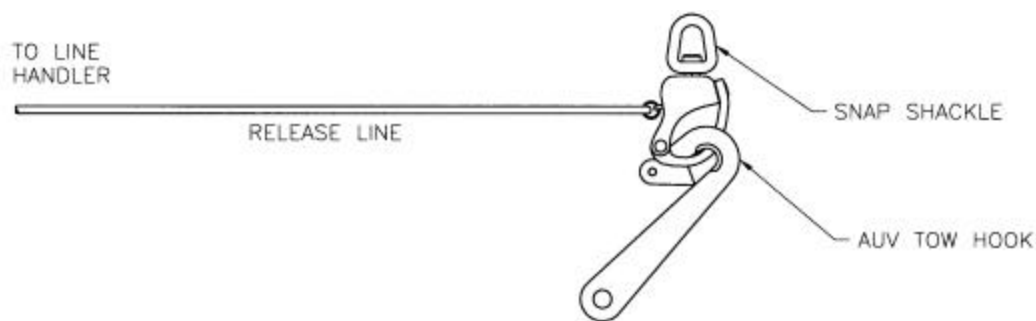

Figure 4-02 – Release Line to Snap Shackle
6. Attach the snap shackle to the AUV tow hook. The snap shackle release line should be orientated so that it will face the ship when the AUV is under tow. Rig the release line to the snap shackle pin as shown in Figure 4-02.